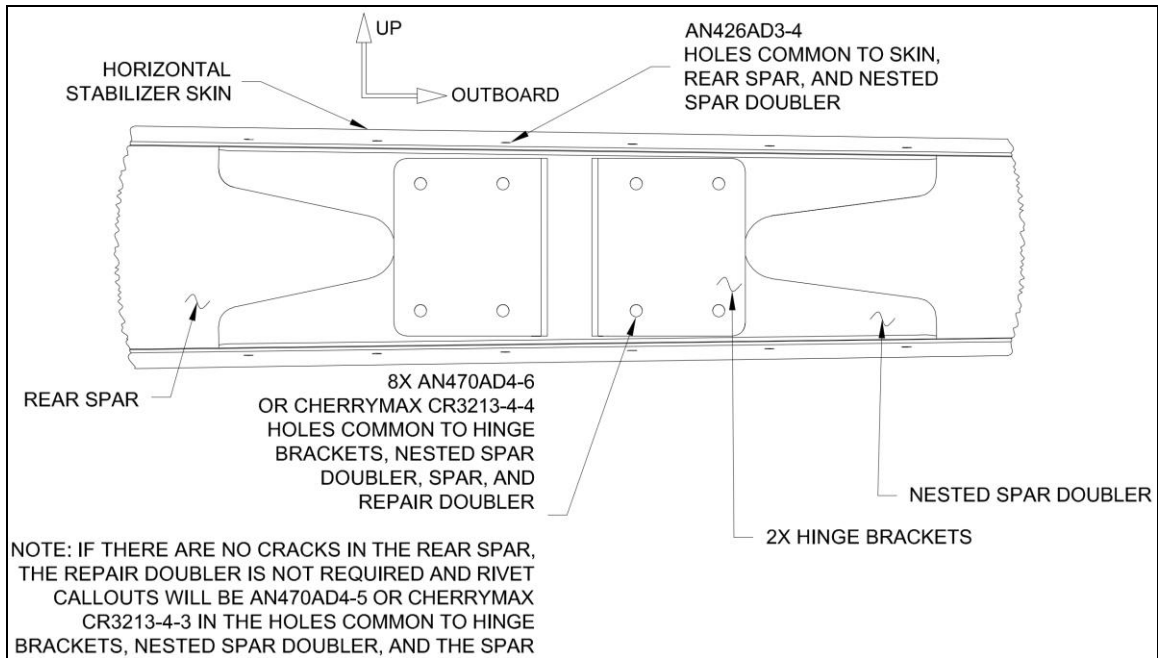
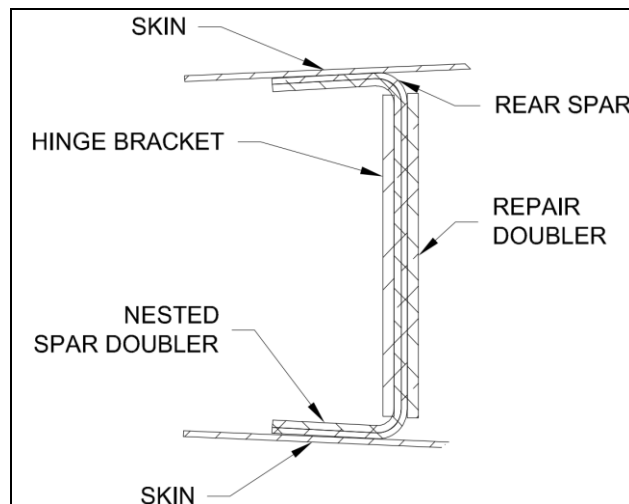
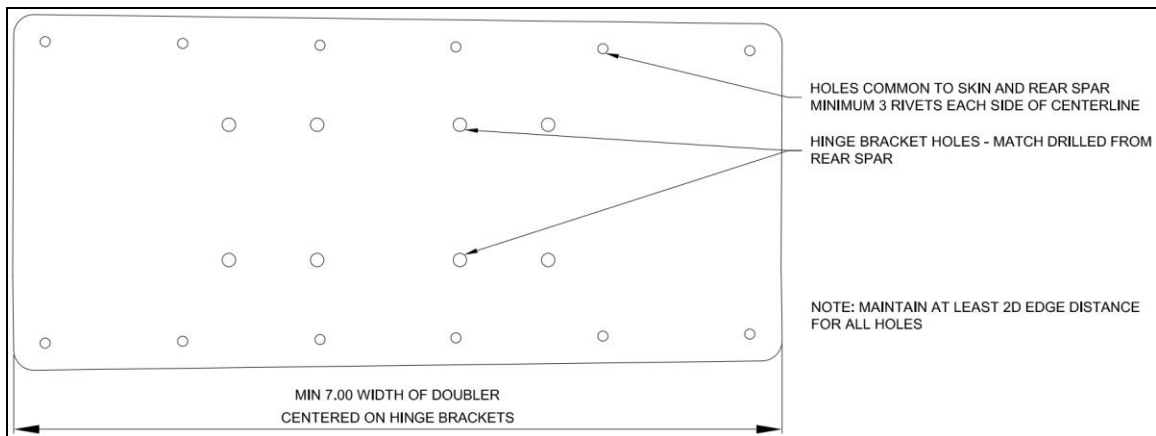
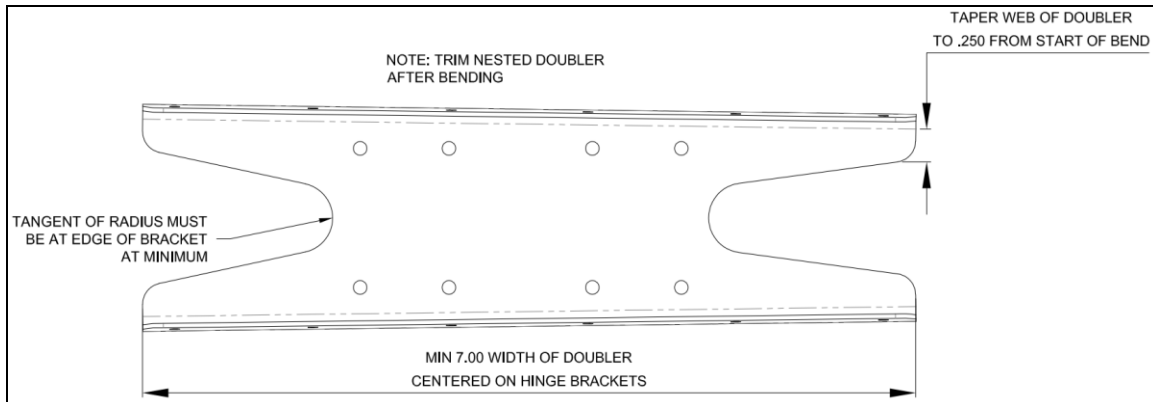

FIGURE 5: RIVET CALLOUTS AND REAR SPAR AFT VIEW
FIGURE 6: REAR SPAR SECTION VIEW
FIGURE 10: EXAMPLE NESTED SPAR DOUBLER FLAT PATTERN
FIGURE 12: NESTED SPAR DOUBLER TRIM GUIDELINES
See Figure 10 for an example flat pattern. This example shows holes that will be in the doubler when it is ready for installation.
See Figure 12 for trimming guidelines. Trim after bending. The minimum length of the doubler is 7.00. The doubler must also capture at least three rivets on each side of outboard hinge brackets.
Step 8 (RV-3): Clamp the nested spar doubler into the appropriate location in the spar. See Figure 5 for an example installation.
Step 9 (RV-3): Match drill the holes common to the skin and rear spar into the nested spar doubler. The doubler should capture at least six rivets from the skin and rear spar in each flange of the doubler. The doubler must be at least 7.00 in length. See Figure 5 for an example installation and Figure 12 for final trimming guidelines.
Step 20 (RV-4): Slide the HS-00416 Nested Spar Doubler Blank into the spar to produce a tight fit and provide enough material to meet the guidelines in Figure 10 and Figure 12. See Figure 5 for an example final installation.
Step 21 (RV-4): Match drill the holes common to the skin and rear spar into the nested spar doubler. The doubler should capture at least six rivets from the skin and rear spar in each flange of the doubler. See Figure 5 for an example installation.
Step 22 (RV-4): Trim the nested spar doubler. The holes in the flanges of the nested spar doubler will drive the total length of the doubler, but it must be 7.00 in length at a minimum. See Figure 12 for trimming guidelines.
Step 31 (RV-6): Clamp the HS-00716B Nested Spar Doubler into the appropriate location centered on the hinge bracket hole pattern. See Figure 5 for an example installation.
Step 32 (RV-6): Match drill the holes common to the skin and rear spar into the nested spar doubler. The doubler should capture at least six rivets from the skin and rear spar in each flange of the doubler. See Figure 5 for an example installation.
NOTE: See Figure 6 for a section view of the assembly.
Step 43 (RV-6PP/7/8): Cleco the HS-00717A Outboard Elevator Hinge Brackets to the rear spar and match drill the holes common to the rear spar, nested spar doubler, and repair doubler (if required). See Figure 5.
Step 49: Cleco the hinge brackets to the rear spar and nested spar doubler. See Figure 5 and Figure 6 for reference.
Step 50 (If cracks are present): Cleco the repair doubler to the forward side of the rear spar. See Figure 6 for reference.
Step 51: Rivet the holes common to the hinge brackets, nested spar doubler, rear spar, and repair doubler (if required). See Figures 5 and 6.
Step 52: Rivet the holes common to the skins, rear spar, and nested spar doubler. See Figure 5 for rivet callouts.